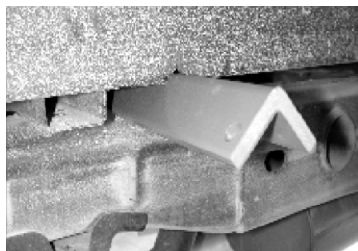

Figure B1.
1. **Install front cross member.** With the holes in the cross member facing the rear of the truck, slide the angle iron cross member between the truck frame and the bed using the notch that was made in the previous step as shown in figure B1. Once you start sliding the angle across the frame of the truck, we recommend that you get under the truck and guide it across the frame rails taking care not to damage the brake lines along the driver side of the frame or fuel valve located on the back of the fuel tank on some models. Once the cross member is across the frame rails, using the rubber O-ring provided, secure a 1/2" x 1-1/2" long bolt into the second hole in the cross member from the driver side, see Figure B2. Next, push the cross member forward until the cross member is about four inches in front of the four inch hole in the truck bed, making sure that the notch in the angle carefully goes over the brake lines and wiring harness.